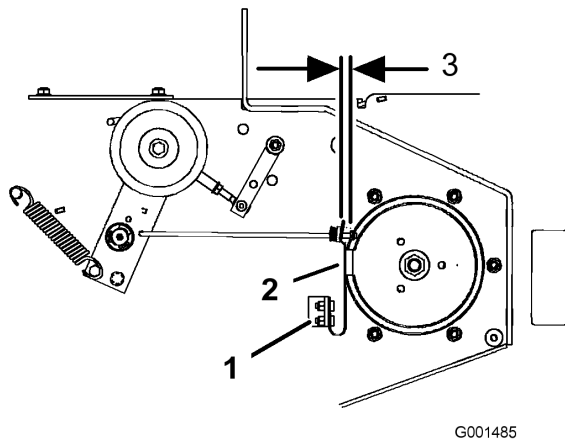

Figure 51
3. If necessary, adjust the spring mounting bolts so that the blade brake pad rubs against both sides of the pulley groove (Figure 51).
4. Adjust the nut at the end of the blade brake rod until there is 1/8-3/16 inch (3 mm-5 mm) between the nut and spacer (Figure 51).